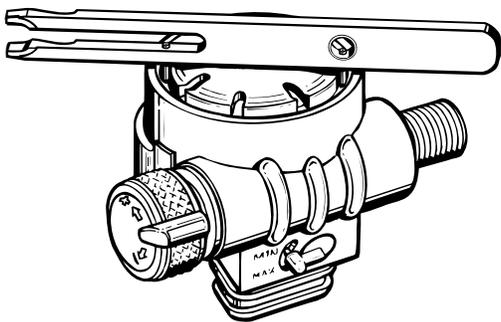

Fig. 1 - Retaining Ring Removal
1. Slide back the hose protector(10) to expose the connection of the LP hose at the second stage.
2. While holding the hex nut(13) of the second stage secure with a $\frac{3}{4}$ " open-end wrench, apply a $\frac{1}{16}$ " open-end wrench to the female fitting of the LP hose(8). Turn the fitting counter-clockwise to loosen and remove the hose from the second stage. Remove the O-rings(7&9) from the hose and discard. Set the hose aside.
3. Carefully snip the plastic mouthpiece clamp(18) and remove the mouthpiece(17) from the box bottom. Inspect the mouthpiece to ensure it is free of any tears or cuts that may cause leakage of water into the second stage or other discomfort. Discard the mouthpiece or set it aside to be reused, depending on its condition.
4. Turn the color ring(1) counter-clockwise by hand to loosen and remove from the second stage box bottom(14).
5. Place the Circlip/ Retaining Ring Tool (P/N 1078-46) directly over the purge cover with the two pins facing down on each side. Firmly press straight down on the tool to depress the purge cover so that the pins are securely engaged into two opposite slots of the retaining ring(2). (See Fig. 1.) While holding the tool securely engaged, turn the retaining ring counter-clockwise to loosen and remove.
6. Lift out the purge cover(3) and demand diaphragm(4). Inspect each of these items closely to ensure that they are perfectly round and free of any tears, deterioration, or other damage. If damage or deterioration is found, discard the item(s) and do not reuse.
7. Turn the adjustment knob(32) slightly in either direction until the retaining pin(33) can be seen facing up inside the through-hole. While holding the second stage securely in place, apply a $\frac{1}{16}$ " drift pin punch to the end of the retaining pin, and tap the punch lightly with a small mallet to drive the pin out through the opposite side of the knob. When at least half of